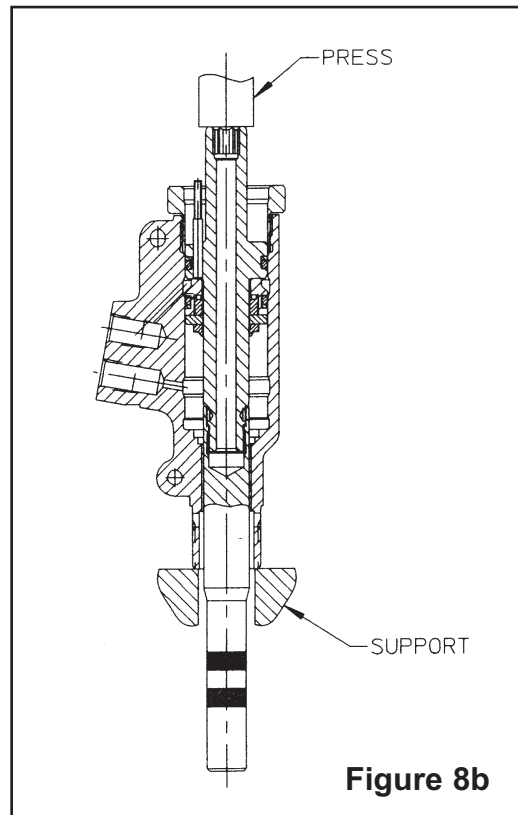

Figure 8b
4. Lightly coat cylinder, piston O-rings, and front gland O-rings with lubricant. While supporting tool, as shown, press assembled piston and components into cylinder. Remove piston assembly tool - - *FIGURE 8b.*